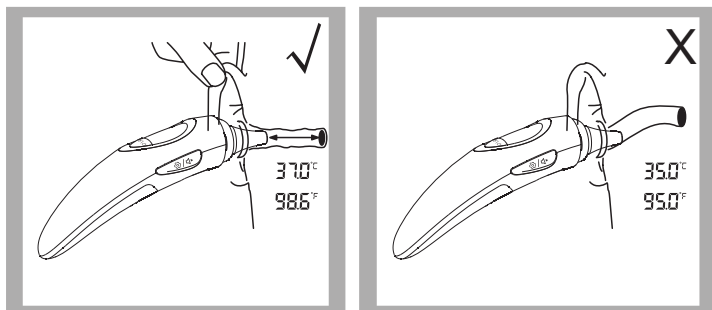

Figure 3
3. Insert the probe along the ear canal as deep as possible into the ear as depicted in Figure 3. Then press the *Test Button* once to start the measurement. A long beep will sound approximately 1 second after the *Test Button* is activated. This signals the end of the process as results are displayed on the LCD screen.